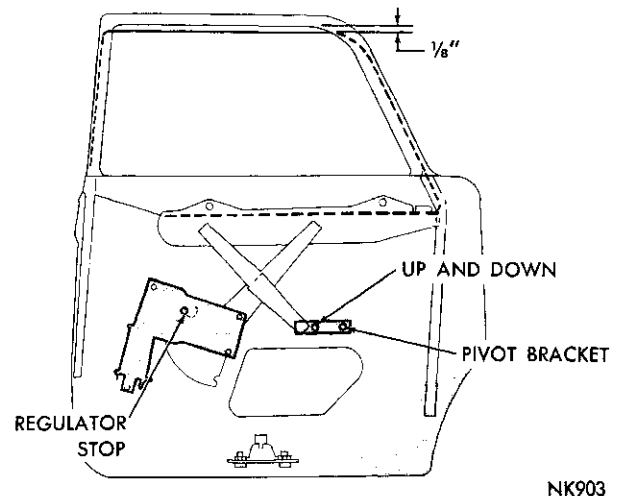

Fig. 69—Rear Door Glass Replacement
(1) Remove the door inside handles, trim panel and watershield.
(2) Remove the spring nut (Fig. 69) securing the rear arm of the regulator to the glass lower frame.
(3) Remove the regulator arm stud from the roller in the lower glass frame and remove the roller.
(4) Rotate the glass rearward (Fig. 69) and disengage the slot of the lower glass frame from the roller on the front regulator arm.
(5) Remove the glass and frame assembly from the door.
(6) Before installing the glass and frame assembly, lubricate the roller areas of the frame. The rollers should be inspected for damage or excessive wear.